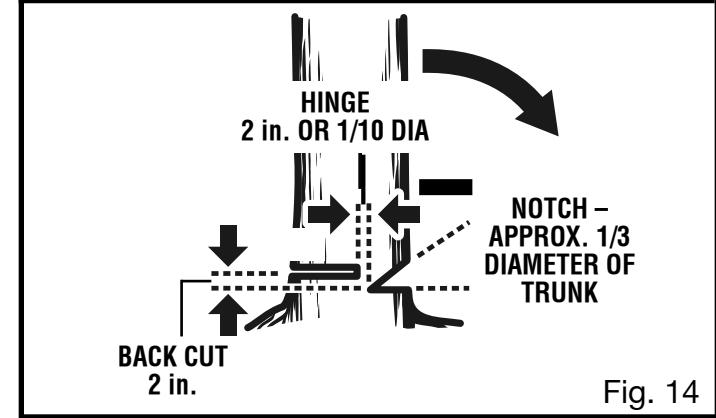

Fig. 14
always make the lower cut of the notch before the upper cut. *See Figure 14.*
■ **Felling Backcut.** The backcut is always made level and horizontal, and at a minimum of 2 in. above the horizontal cut of the notch. *See Figures 14 - 15.*
■ Never cut through to the notch. Always leave a band of wood between the notch and backcut (approximately 2 in. or 1/10 the diameter of the tree). This is called "hinge" or "hingewood." It controls the fall of the tree and prevents slipping or twisting or shoot-back of the tree off the stump. *See Figures 14 - 15.*